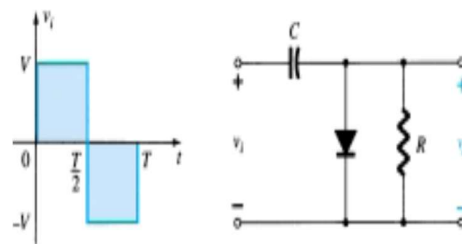

Fig:33
- The network of Fig. 33 will clamp the input signal to the zero level (for ideal diodes). The resistor R can be the load resistor or a parallel combination of the load resistor and a resistor designed to provide the desired level of R .